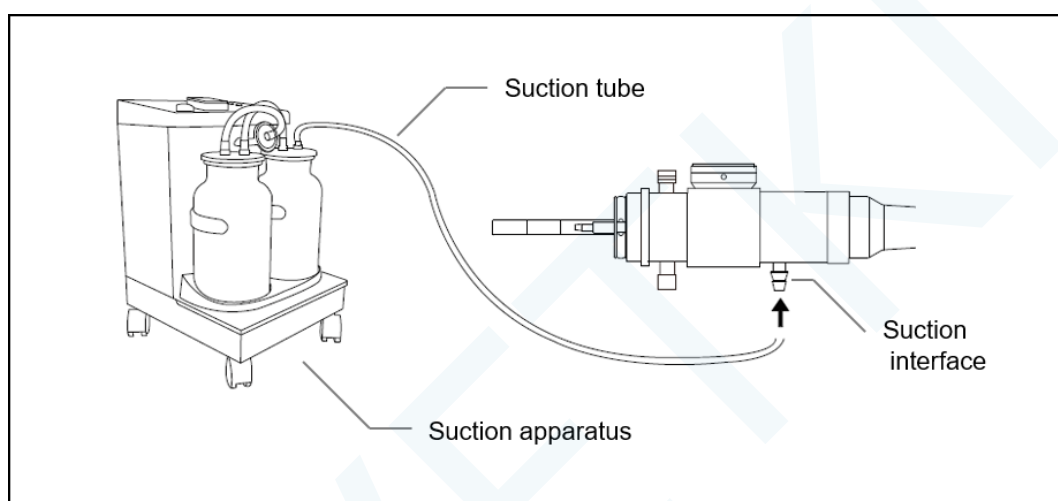

Figure 3.17
6. Connect the suction tube of the suction pump to the suction connector of the light guide connector (Figure 3.17).